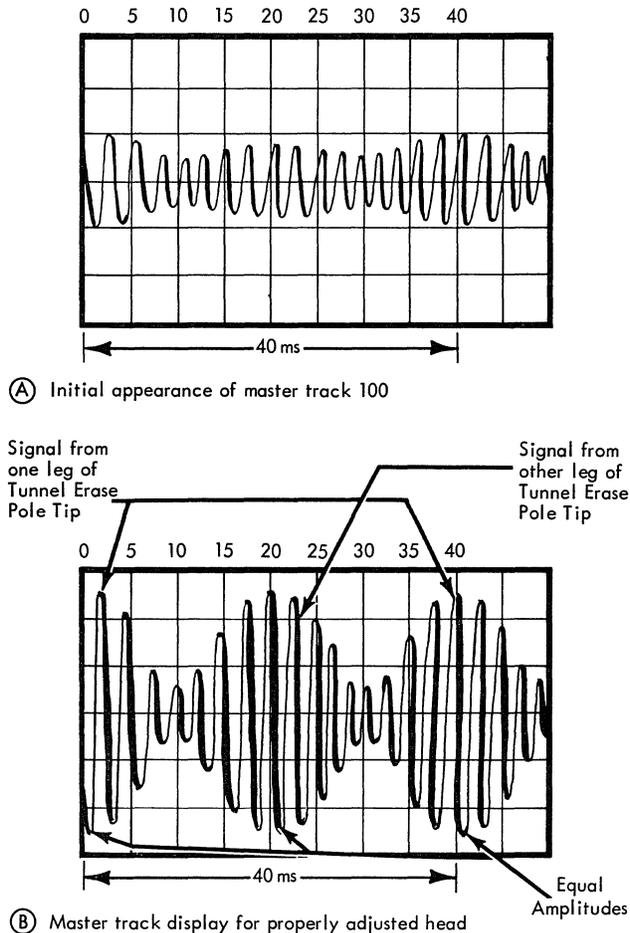

Figure 4-8. Signal Patterns for Head Alignment Adjustment
NOTE: The Head Alignment Oscilloscope Adapter (P/N 2200052) is used to connect the erase winding into the preamplifier of the read circuit. Output for scoping is from Pin D3B07. Location of head clamping screws and adjustment screws is shown in Figure 4-7. Oscilloscope signal-pattern displays are shown in Figure 4-8.
The CE track is written with a slight eccentricity so that it will sweep slightly below one leg of the tunnel erase pole tip during one-half revolution of the disk, and then slightly above the other leg of the pole tip during the other one-half revolution. With proper adjustment of the heads, the signal will appear on the scope as shown in View B, Figure 4-8.
If a slight misalignment exists, the track will sweep more under one leg than the other, and the envelopes generated will be at different amplitudes as shown in View A, Figure 4-8.
7. Slowly advance the head adjusting screw while observing the scope pattern. The scope will first show noise only, then the pattern of View A, Figure 4-8 will appear. When the head is properly aligned, the pattern of View B, Figure 4-8 will be present and the lobes will be equal in amplitude.